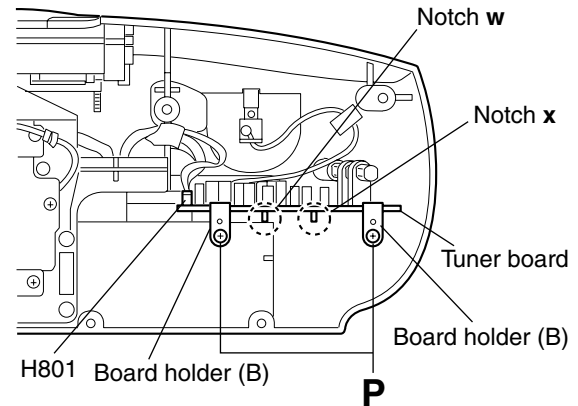

Fig.16
(See Figs. 16 and 17.)
5. Disconnect the wire from the connector H801 on the tuner board. (See Fig.16.)